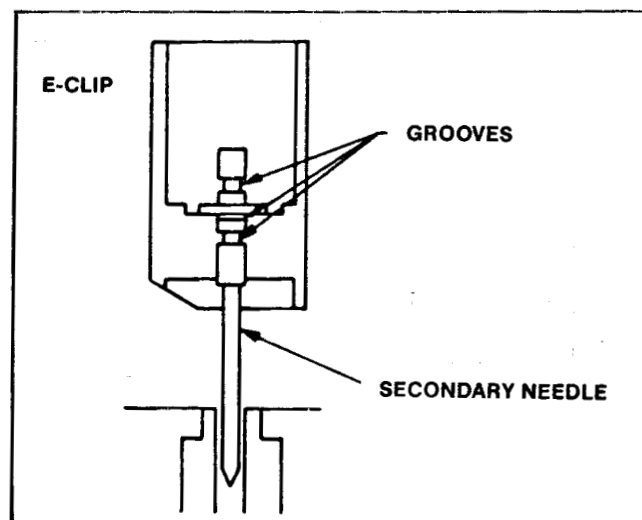

Figure 26
1. Install the E clip on the secondary needle. Nominal placement of the E clip is in the middle groove. The upper groove will yield a leaner mixture and the lower groove yields a richer mixture. See Fig. 26.